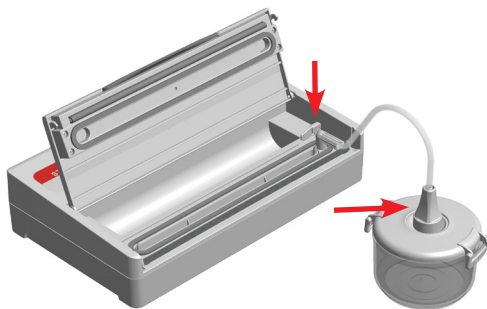

Figure 8: Vacuum packing using containers.
- a.) Insert the opening of the Accessory Hose into the Accessory Port (Figure 8) on the right side of the Vacuum Channel.